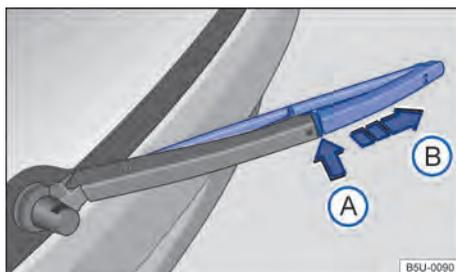

Fig. 175 Replacing the rear window wiper blades.
- Press and hold the release button → Fig. 175 ① pressed.
- Remove the rear window wiper blade in the direction of the arrow ②.